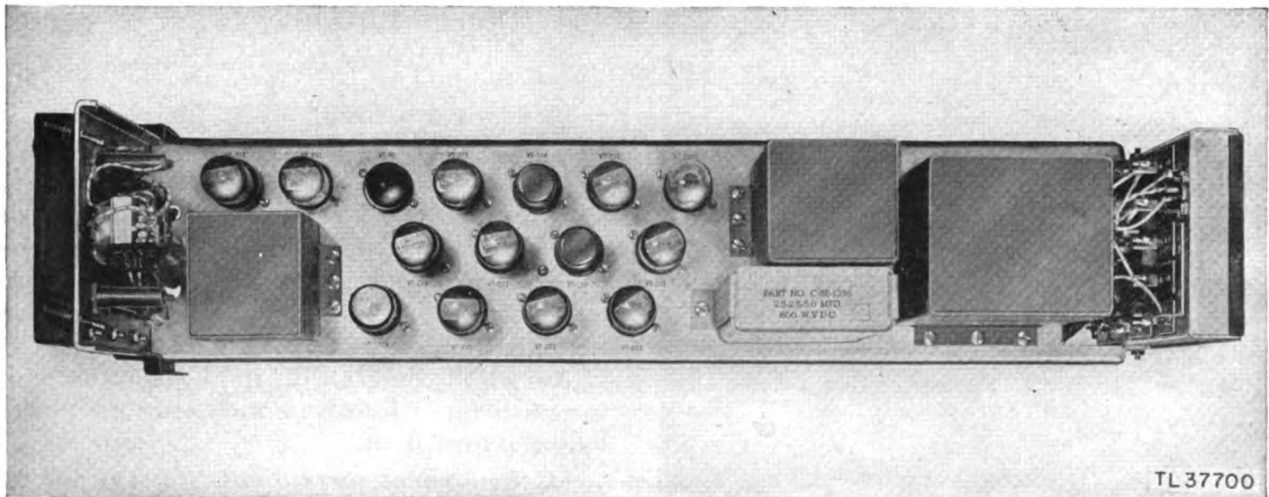
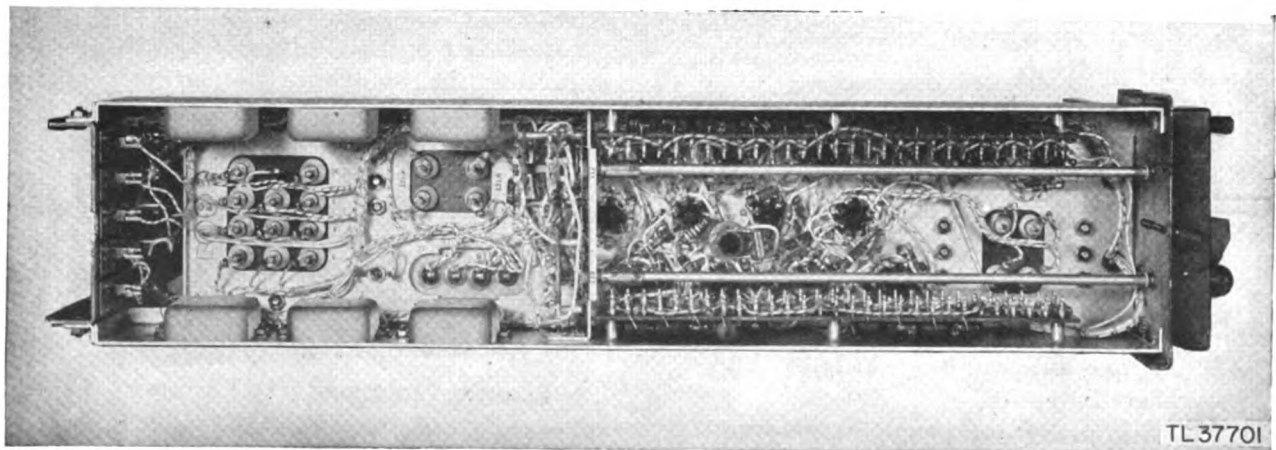

Figure 21. Interconnector—top.
Figure 22. Interconnector—under side.
(2) To remove spare interconnector from case. Follow the procedure used to remove the operating interconnector. No cables are attached to the spare interconnector.
(3) To mount spare interconnector into operating position. Reverse the removal procedure in (1) above.
**FITC. TOP OF INTERCONNECTOR CHASSIS (fig. 21).**
(1) Feel the cases of all transformers and chokes for signs of overheating. This operation is to be done as soon as possible after the power to the interconnector has been turned off.
(2) Inspect the transformers and chokes for signs of overheating (par. 30).
(3) Inspect the tubes for proper seating in their sockets (par. 22).
(4) Inspect the oil-filled capacitors for leakage (par. 23).
(5) Inspect the cable connector pins for corrosion.
(6) Inspect all connections for proper soldering and tightness.
(7) Tighten all mountings, mounting screws, and holding brackets where necessary.
(8) Clean the top of the interconnector when necessary.
**ITC. UNDER SIDE OF INTERCONNECTOR CHASSIS (fig. 22).**
(1) Inspect the oil-filled capacitors for leakage (par. 23).
(2) Inspect the transformer stand-off insulators for cleanliness (par. 26).
(3) Inspect the gang switches for mechanical operation and tightness of contacts (par. 28).
(4) Inspect the setscrews and mountings on the TEST and SELECTOR switch shafts for tightness.